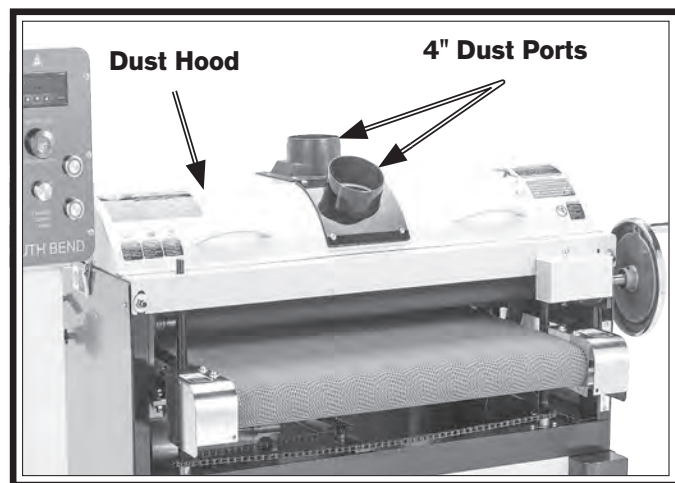

Figure 10. Dust ports attached to dust hood.
4. Apply $\frac{1}{16}$ " double sided tape to bottom perimeter of each dust port, then attach to dust hood as shown in Figure 10.